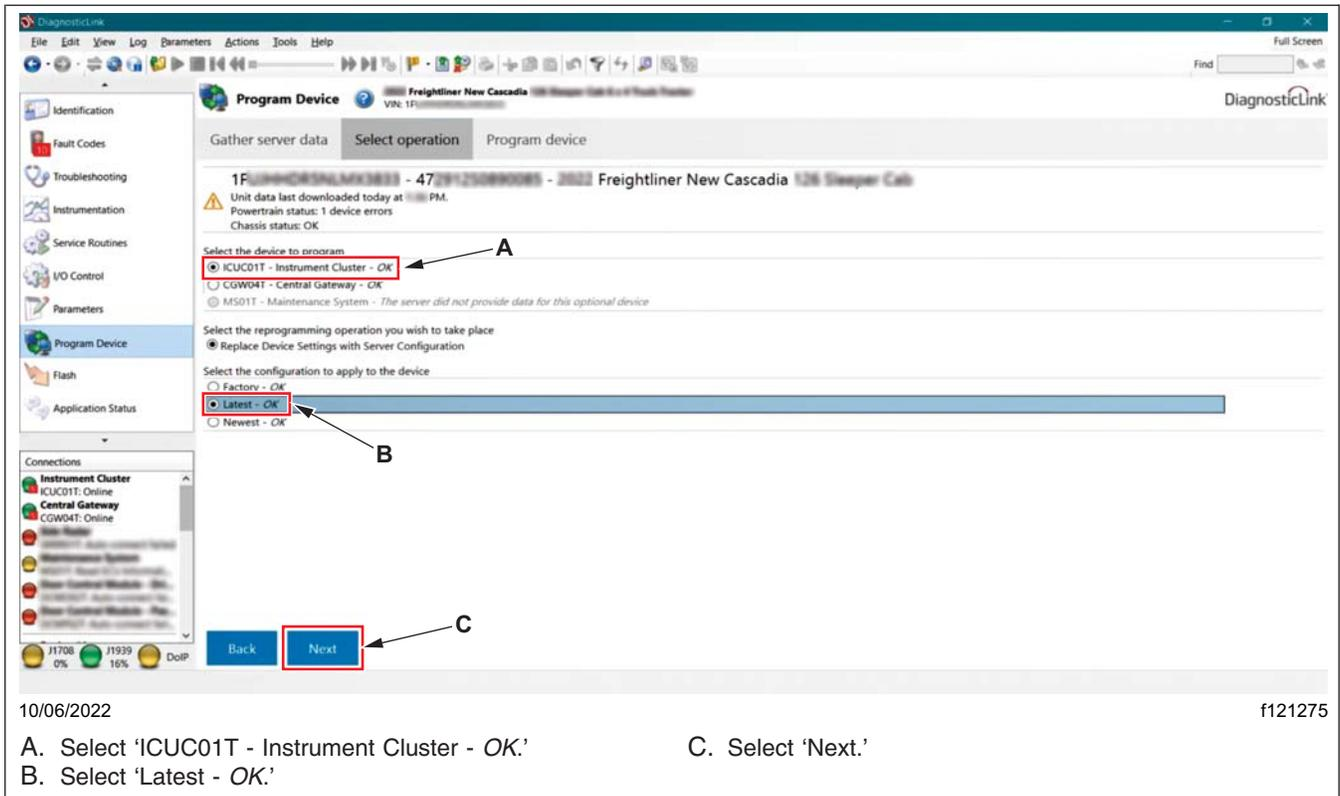

Fig. 20, Selecting the Device Configuration
- 24.1 Select 'ICUC01T - Instrument Cluster - OK' as the device to program. See Fig. 20.
- 24.2 Select 'Latest - OK' as the configuration to apply to the device. See Fig. 20.
- 24.3 Select 'Next.' See Fig. 20.